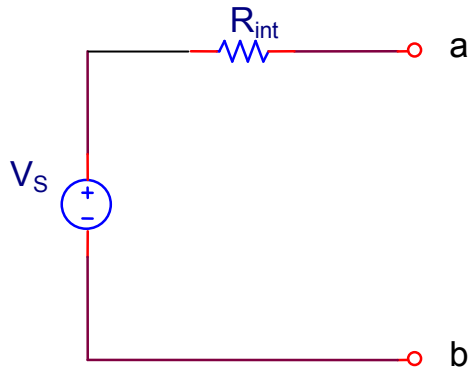

Figure 7.3
1. A voltage source can be modeled as an ideal voltage source in series with a resistance, R_{int} as shown in figure 7.3.
The internal resistance of the voltage source (R_{int}), can be determined by placing a known resistance of R across the open terminals of the circuit in figure 7.3. In doing so, the following procedure allows the student to measure this internal resistance and use it in circuits that are energized by voltage sources.